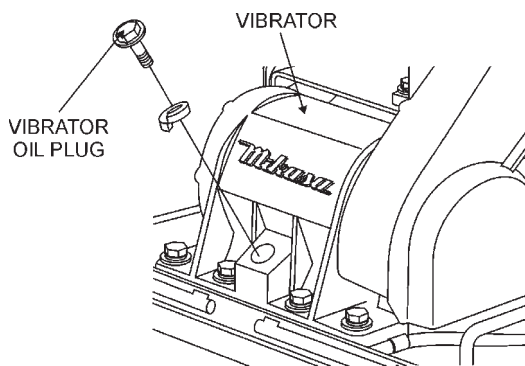

Figure 7. Vibrator Oil Plug
2. Check vibrator oil level by removing the plug (vibrator oil gauge) as shown in Figure 7. The oil level should be up to the oil plug. The vibrator holds 140 cc (approximately 1 pint).